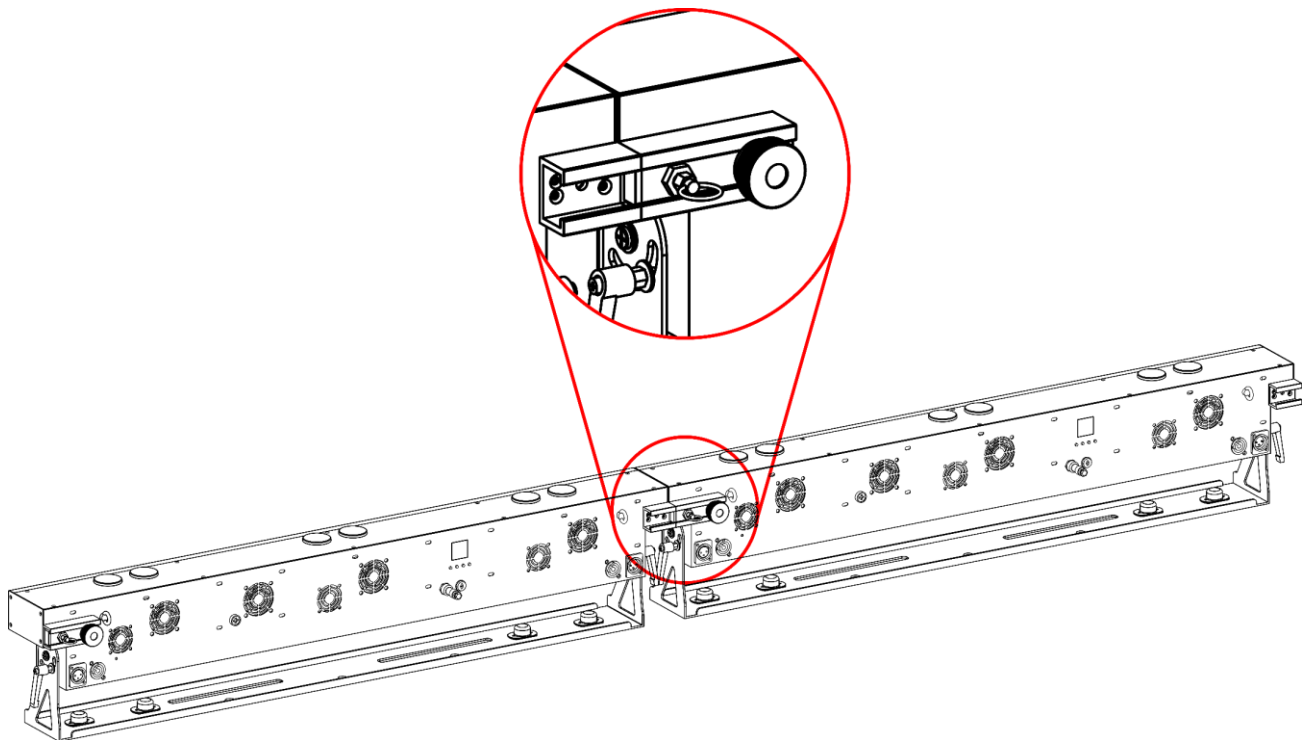

Fig. 10
- 01) Place the devices next to each other, as shown in Fig. 10.